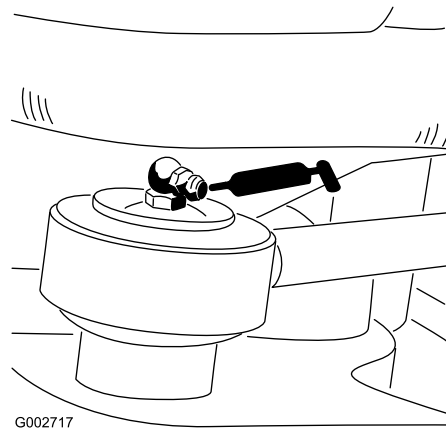

Figure 25
- Steering cylinder rod end (1)—Model 08705 only (Figure 25)